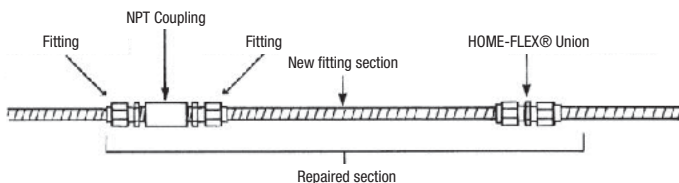

Figure 5.2 Repair of Damaged Tubing with a Spliced New Section
- The tubing has been significantly crushed or dented (a dent greater than $\frac{1}{3}$ the diameter of the pipe). (Figure 5.2)